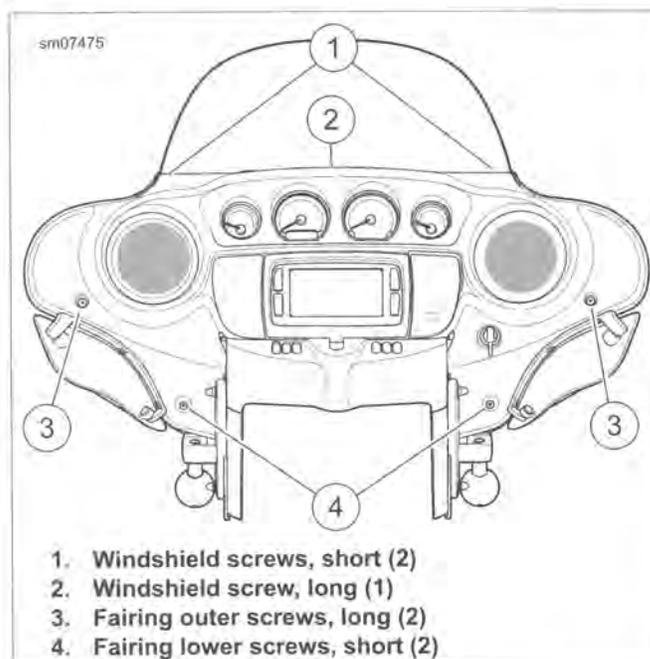

Figure 2-137. Outer Fairing Screws
3. See Figure 2-137. Loosen but do not remove three screws (1, 2) securing the windshield.
5. Remove two screws (3).
6. Remove two screws (4).
- See Figure 2-137. Screws (4) are similar to the center screw that secures the windshield. Use care to avoid mixing them during installation. Screws (4) have a smooth shank, captive washer and unthreaded tip.
3. See Figure 2-137. Start three screws (1, 2). The center screw is the longest.
4. Start two long screws (3).
5. Start two short screws (4).